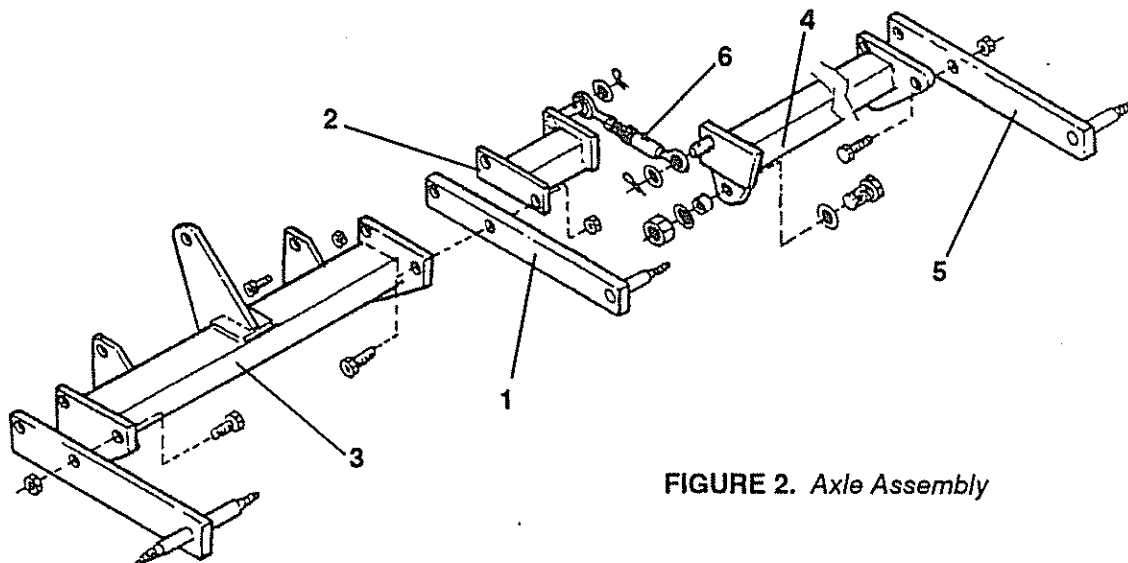

FIGURE 2. Axle Assembly
3. Install Center Axle Legs (#1) and Outer Axle (#2) to Center Axle (#3) using 3/4 x 3-1/2 bolts, and lock nuts. Tighten securely. **NOTE:** Install bolts through flats on Axle tube (#3) and through gauge wheel Axle Legs (#1) and then Outer Axle (#2). Attach the adjustment Turnbuckle w/Bushings (#6) to the Outer Axle (#2) and Wing Axle (#4) using 3/4 x 3-1/2 bolts, nuts, and locknuts. Attach the Wing Axle Legs (#5) to the Wing Axle (#4) using 3/4 x 3 bolts and locknuts. Figure 2. Install Wheels to Axle Legs on Center Section and Wings.